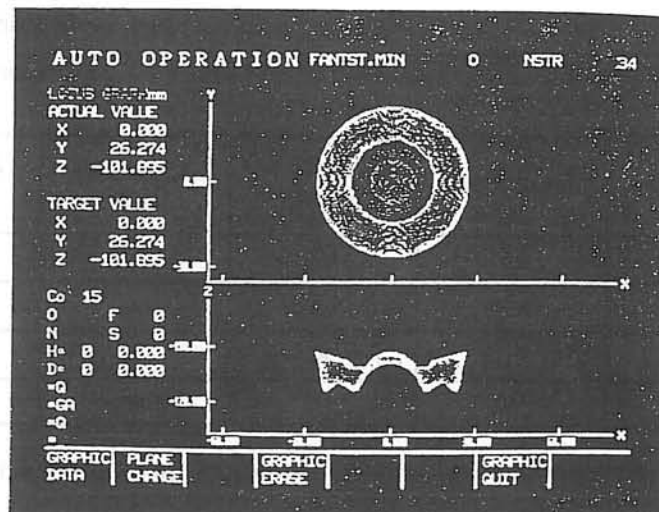

Fig. 5-1
(1) Display modes can be selected from the following two modes.
- Split (2-view) (Fig. 5-1)